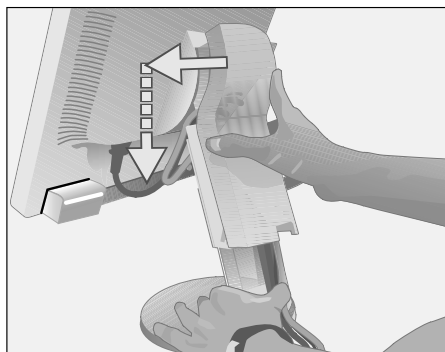
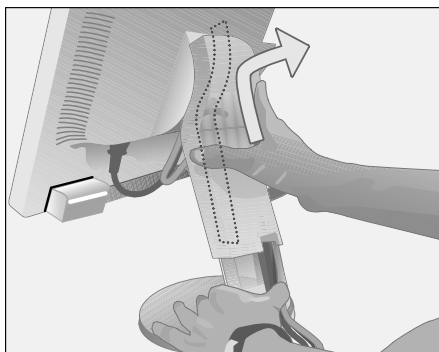

Figure D.1
Figure D.2
9. Hold all the cables firmly and place the cable cover onto the stand (**Figure D.1**). To remove the cable cover, lift the cover off as shown in **Figure D.2**.